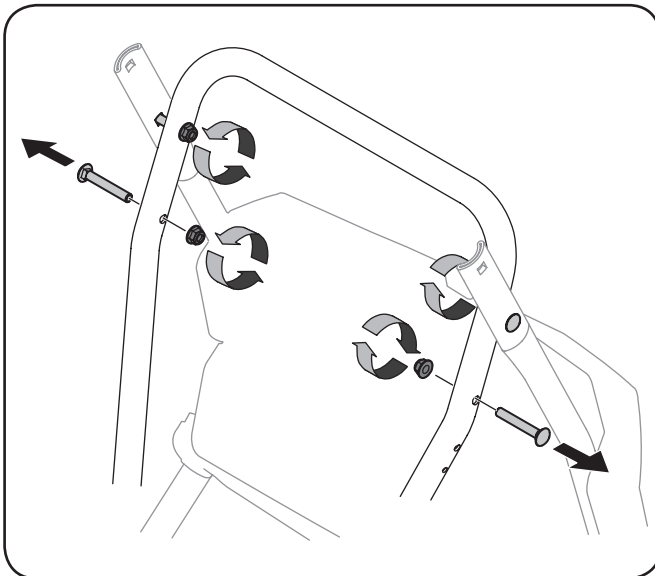

Figure 3-1
1. Loosen the top two lock nuts securing the upper and lower handle and remove the two carriage screws from the lower handle and set aside as shown in Figure 3-1.